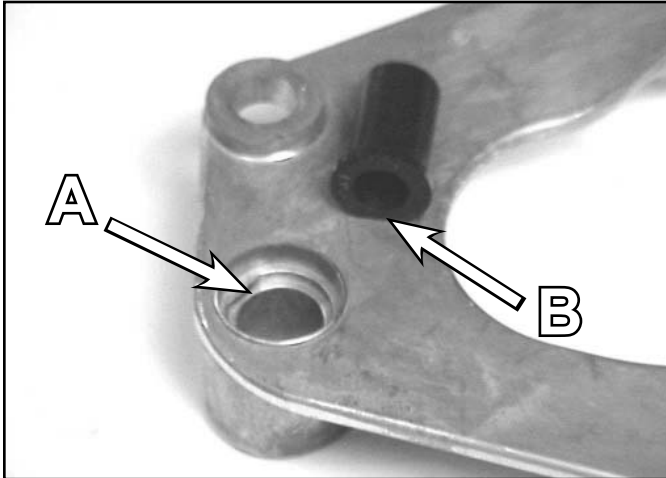

Fig 219
16. The bushing has a notch removed from the flange end. Align that notch in the bushing with the tab in the anchor plate (Fig. 219).